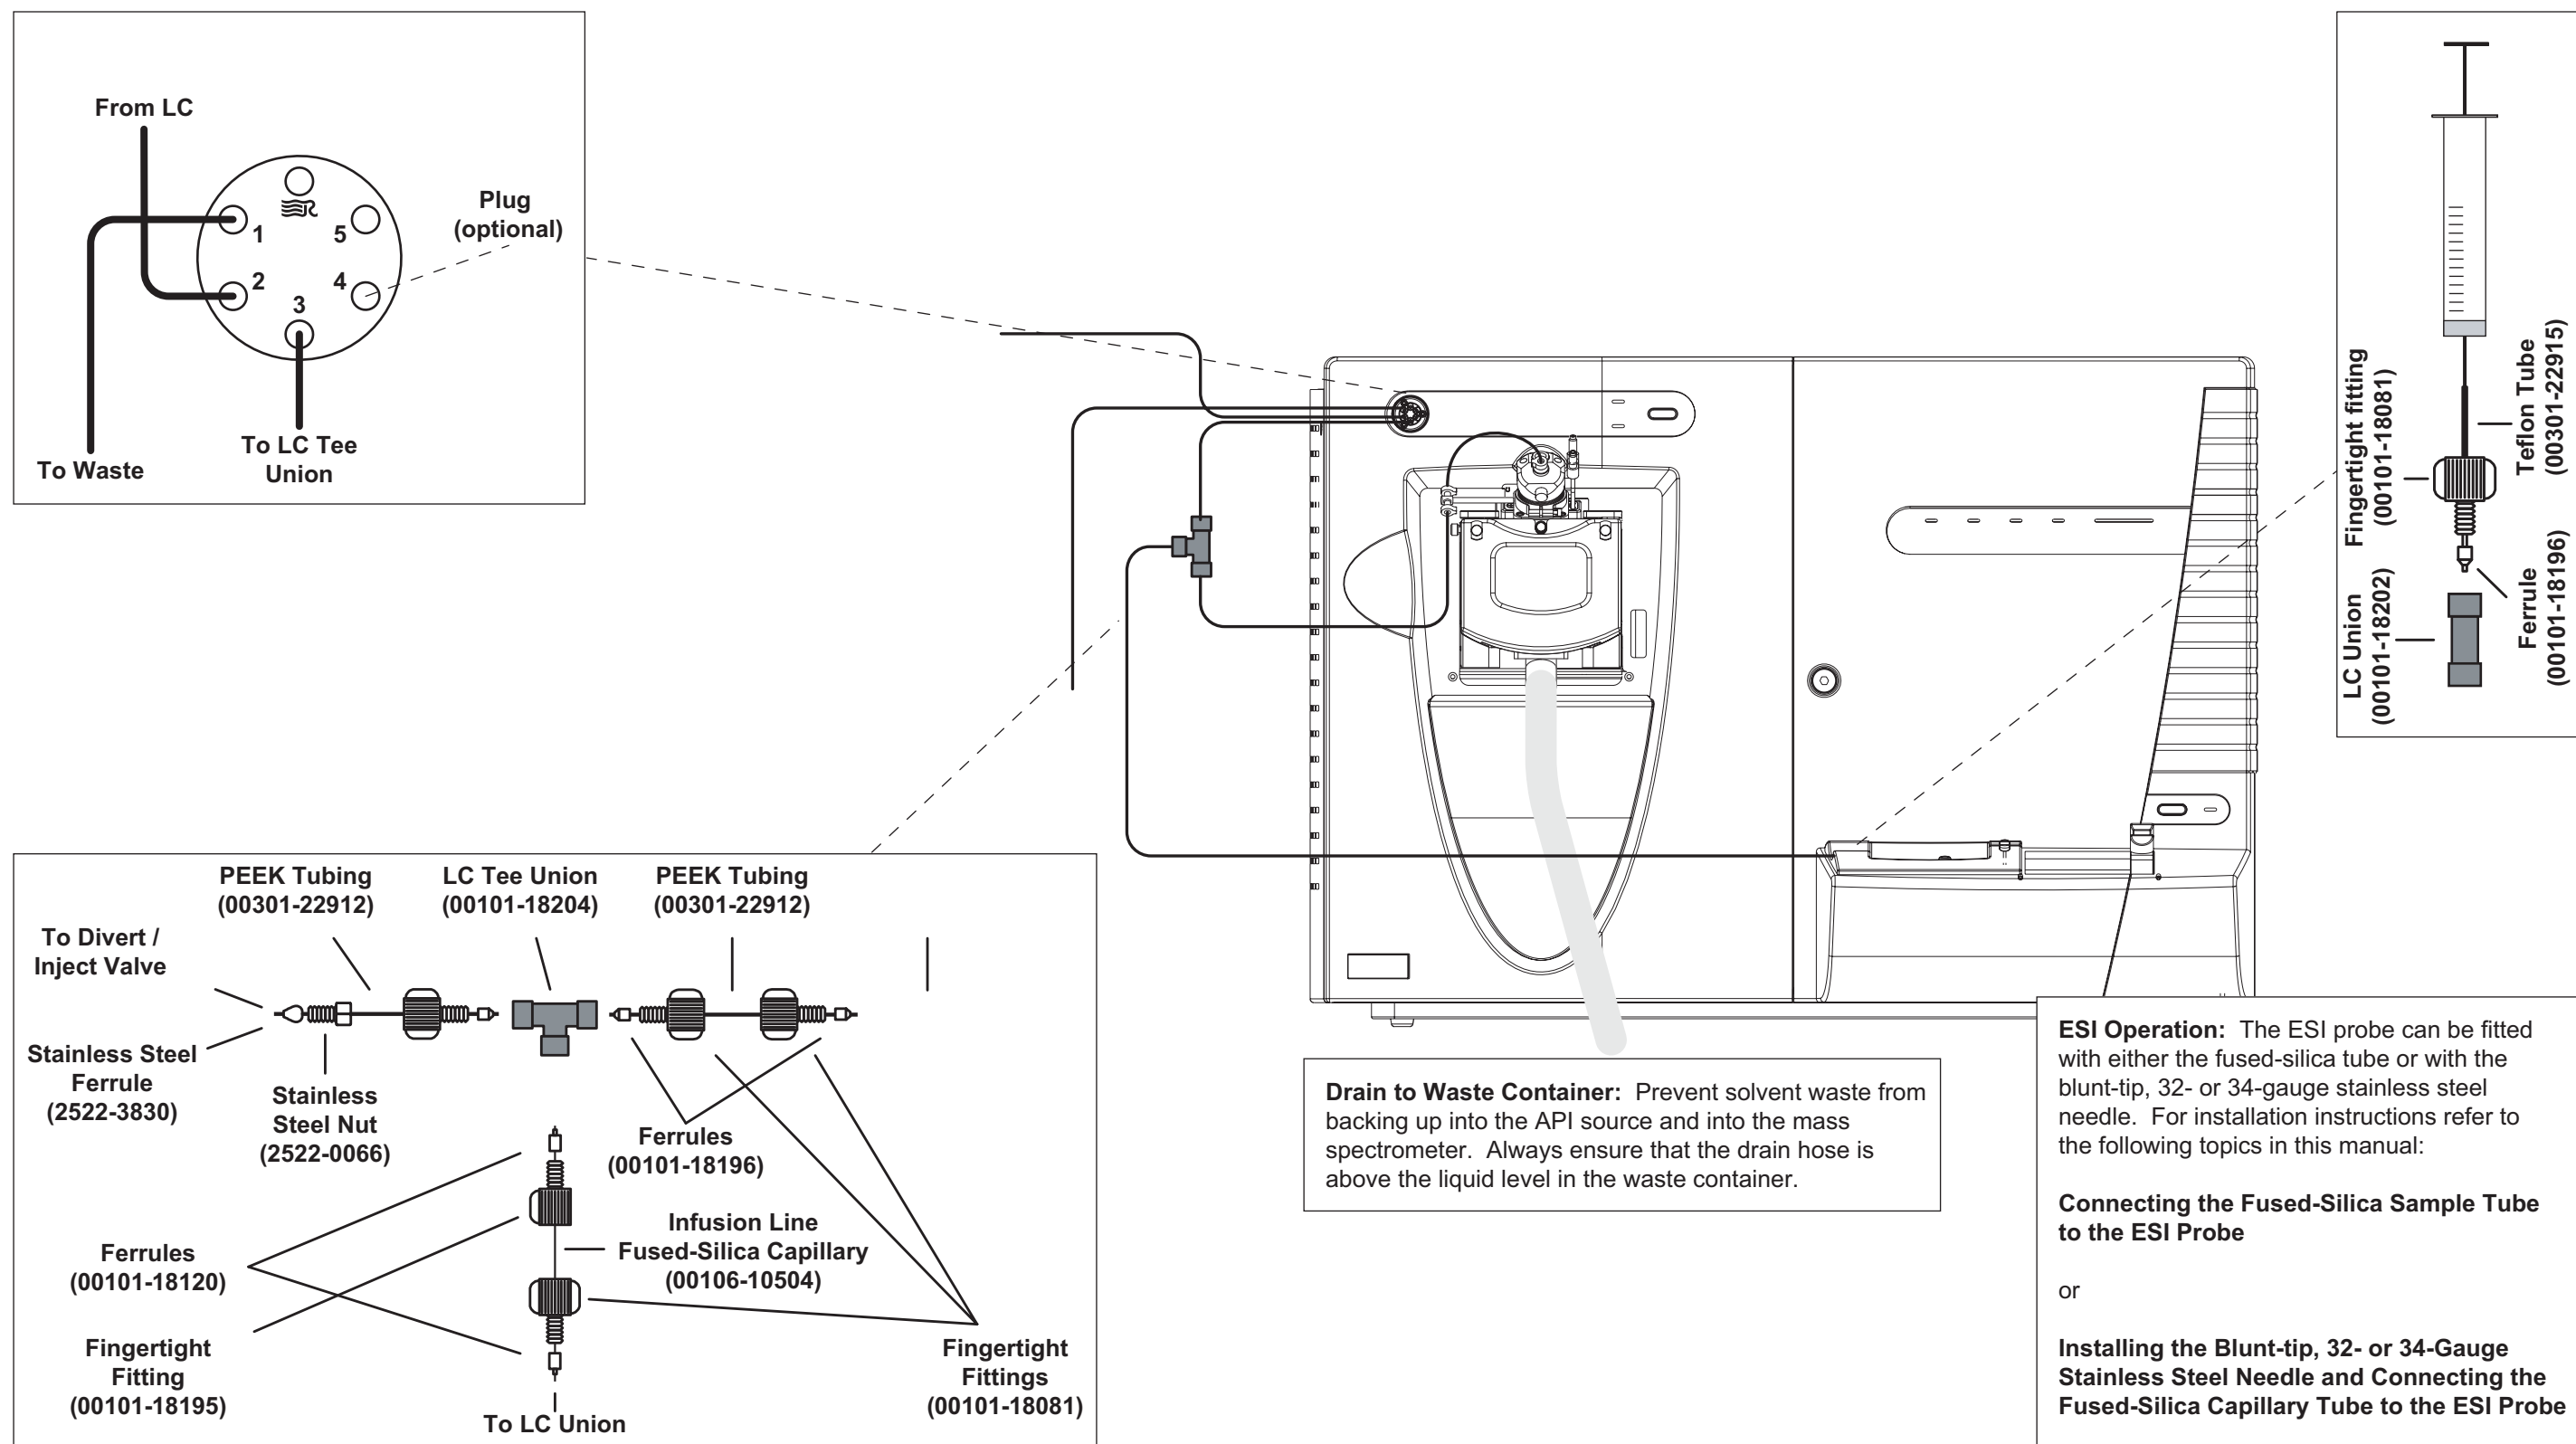

Figure 11-2. Plumbing diagram showing ESI/MS sample introduction from the syringe pump connected via an LC TEE union into the solvent flow from an LC
- Figure 11-2. Plumbing diagram showing ESI/MS sample introduction from the syringe pump connected via an LC TEE union into the solvent flow from an LC